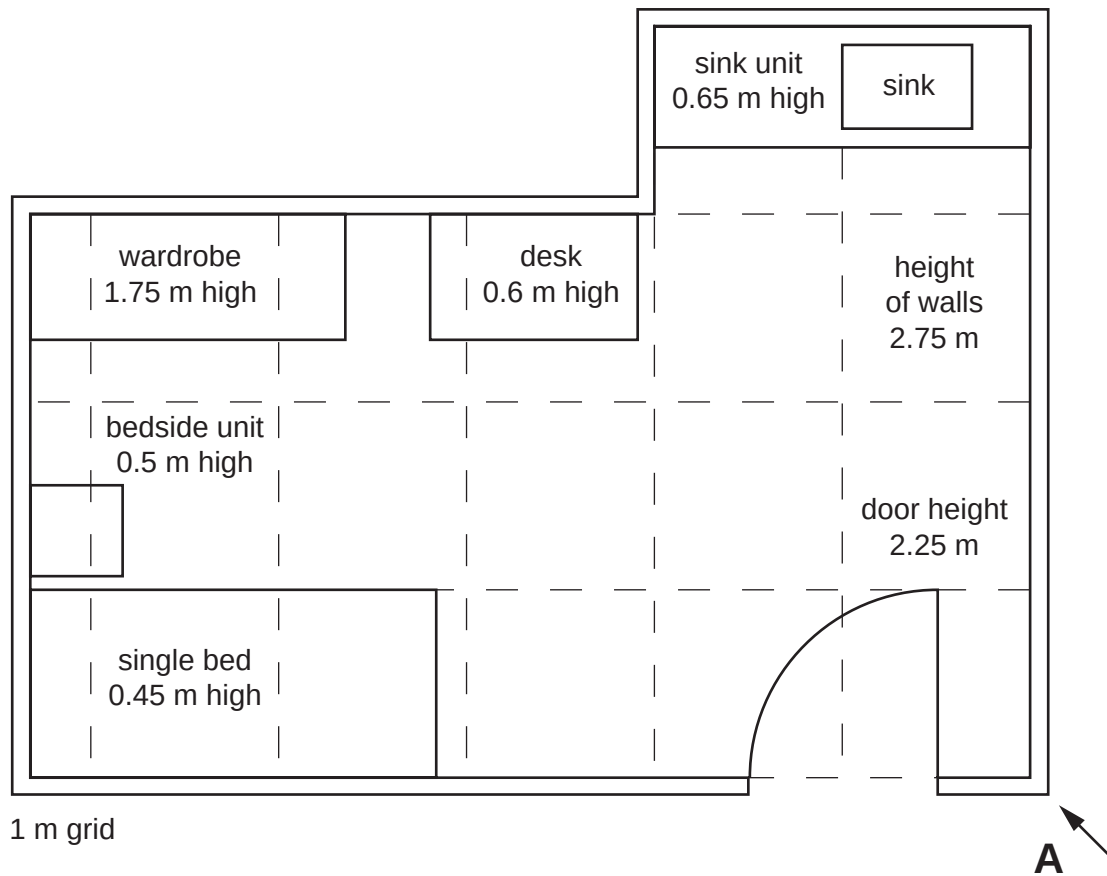

Fig. 4
- 7 Fig. 4 shows the plan of a room for a university student.